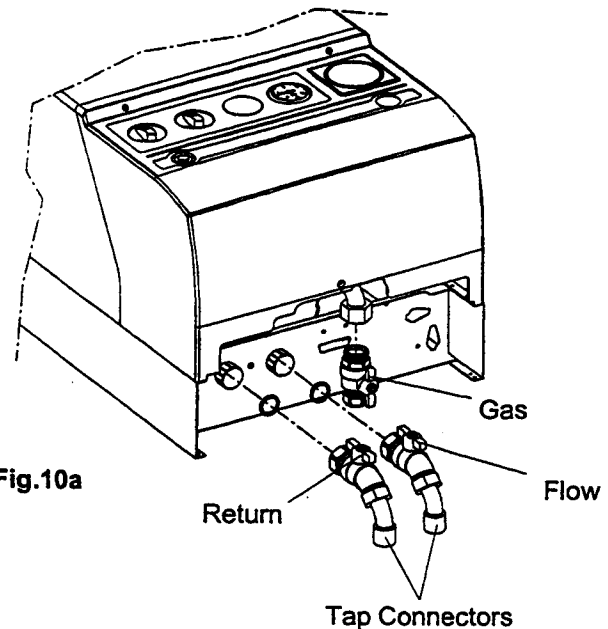

Fig.10a
- 5.3.4 Loosely fit (hand tight) the valves and fittings using the washers supplied (Fig.10a).